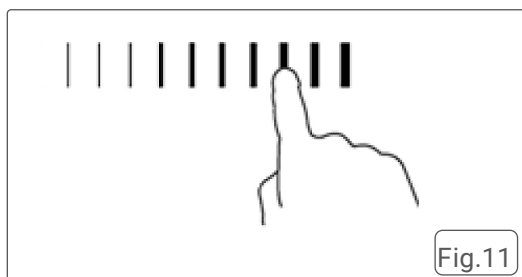

Fig.11
- A. Touch the slider control to select a new heat level. Fig.11. The cooking zone will revert to the selected power level.